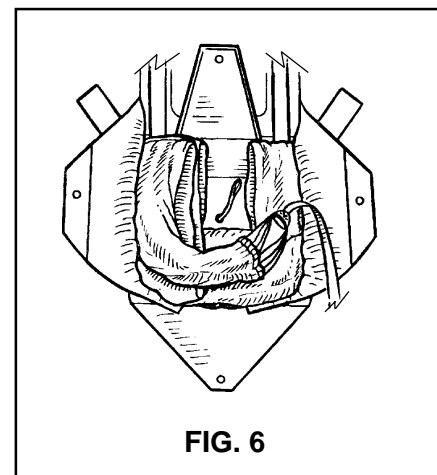

FIG. 6
7. Make two folds up and down the left side of the container, keeping the bulk away from the center as much as possible. The rigger may at this point make another fold across the bottom in order to distribute the bulk evenly side to side **(FIG. 6)**.